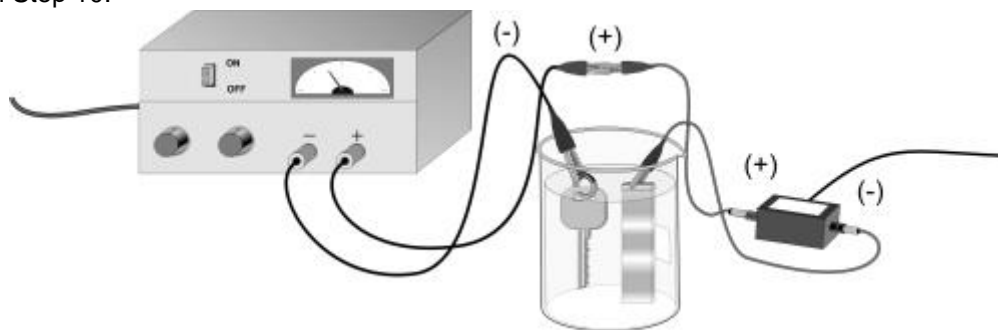

Figure 2
- 7) Obtain a DC power supply and a Vernier Current Probe. Use connecting wires, with alligator clips, to connect the DC power supply, Current Probe, and the electrodes (See Figure 2). Important: You will not place the electrodes in the cell until Step 10.